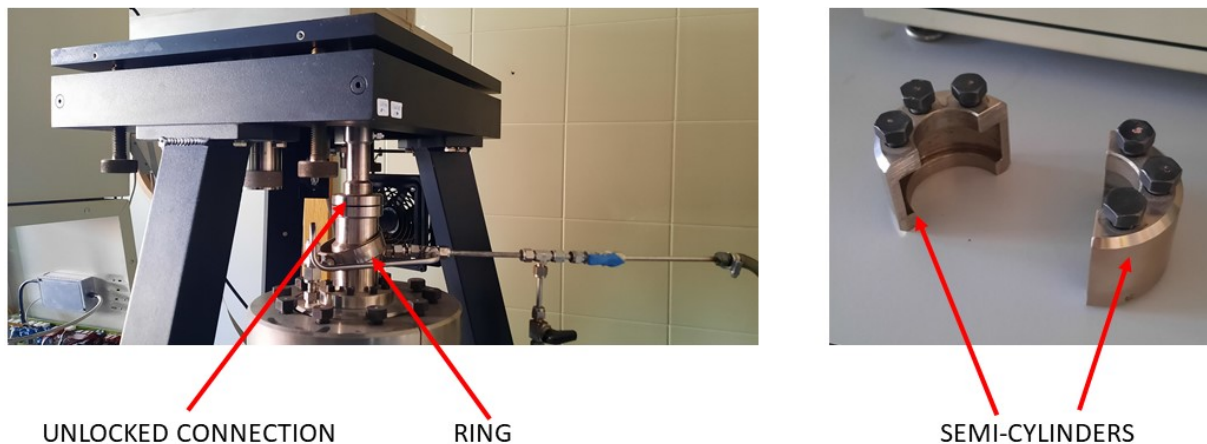

Figure 12: How to unlock the connection of the balance head from the heated body
**5. Once the heated body is now supported carefully, the two semi cylinders that close the connection between the balance head and the heated body have to be unlocked. See figure 12.**